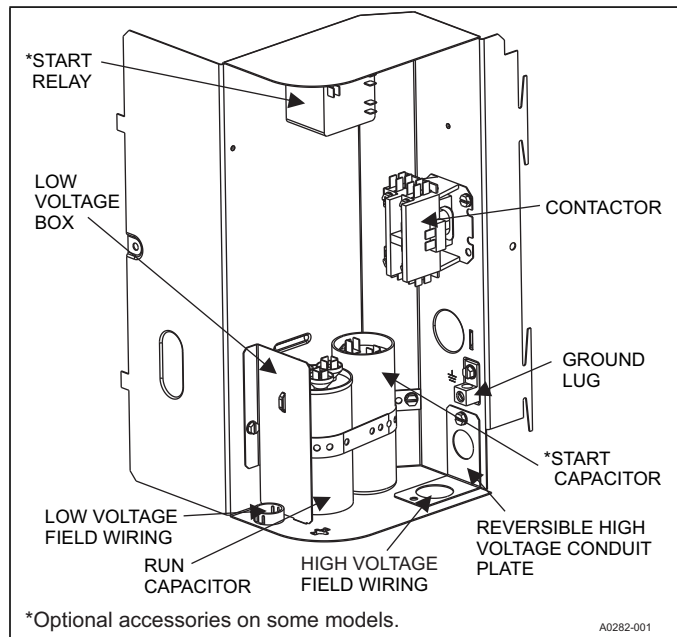

FIGURE 12: Outdoor Unit Control Box (Single Phase - Smaller Base)
1. Route low voltage wiring into bottom of control box as shown in Figure 12 or 13. Make low voltage wiring connections inside the low voltage box per Figure 14.